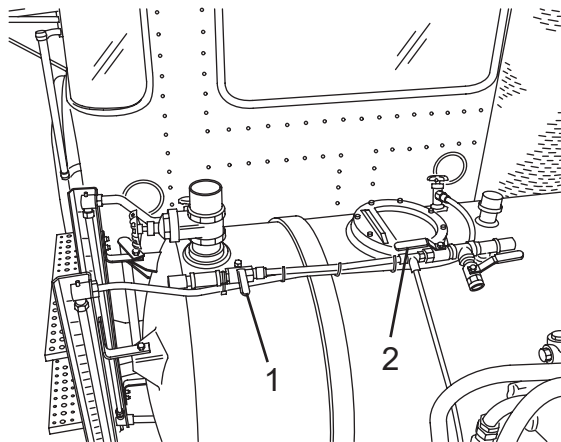

Figure 82
1. Open the air valve (Figure 82, Items 1 or 2) of the tank compartment to be pressurized. If equipped with an optional split tank, each compartment will have its own valve.